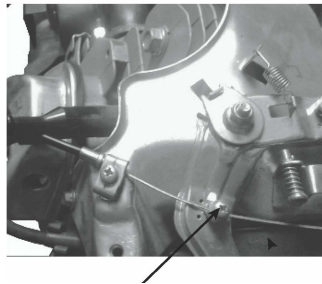

Figure 7
3. Adjustment of the throttle cable (See Figure 7)